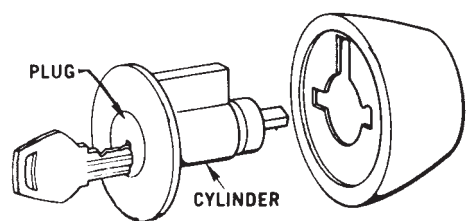

Figure 13.20 Remove outside knob.
1. Remove the outside knob. Turn the key in either direction until it can be partially extended from the plug (Fig. 13.20).